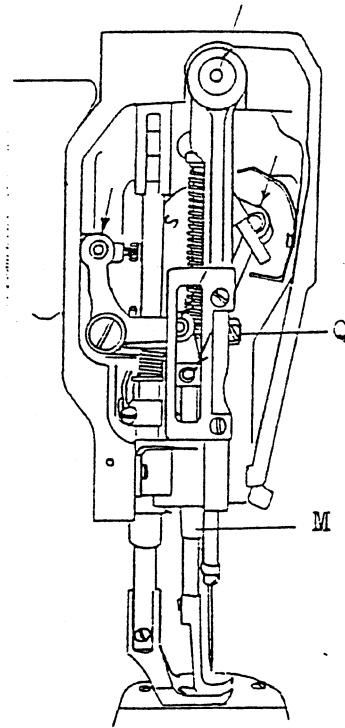
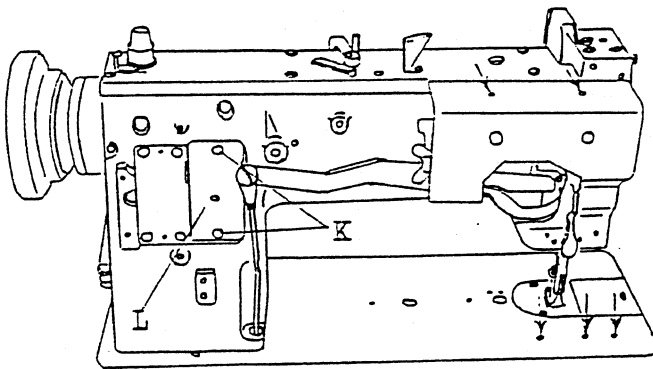
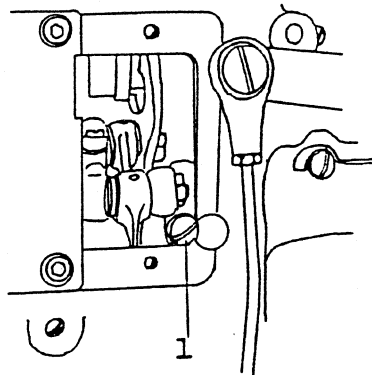

Fig. 4
Fig. 2
Fig 20
1. Loosen the screw(K, Fig 4) and remove the cover(L, Fig 2).
2. Loosen the screw(l, Fig 20).
3. Holding the bottom of the needle bar rock frame(M, Fig 4) move it so as to put the needle to the center of the needle hole on the feed dog and tighten the screw(l, Fig 20).
4. Tighten the screw(K, Fig 2) and close the cover(L, Fig 2).